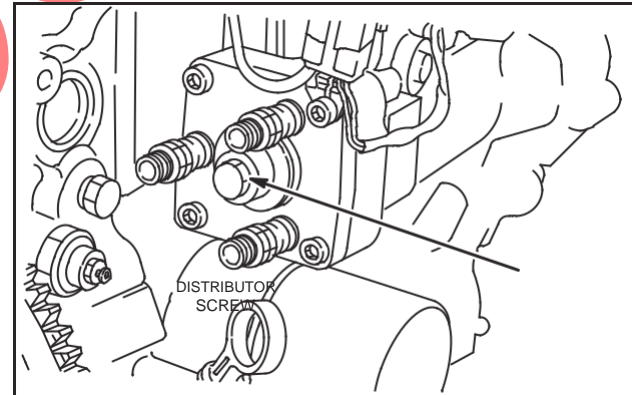

Fig. 11 – Installing Distributor Screw
6. Remove timing gage and install distributor screw with new washer, Fig. 11.